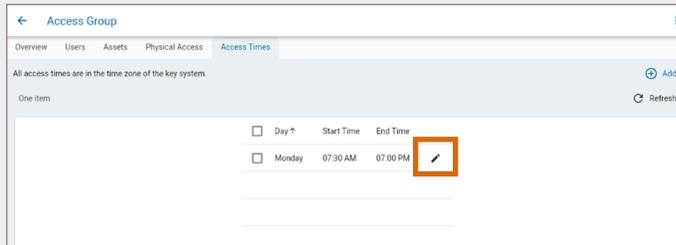

Fig. 111 – Edit existing access times
6. If there are existing access times for a given day, you may select **Edit**  to make changes, as shown in Fig. 111.